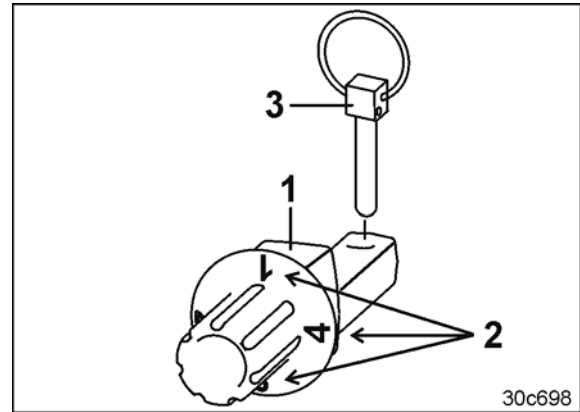

Fig. 105
- o the larger the number (Fig. 105/2) present at the carrying arm (Fig. 105/3).
Whenever you relocate the depth setting pin, secure it using a linch pin (Fig. 105/3).